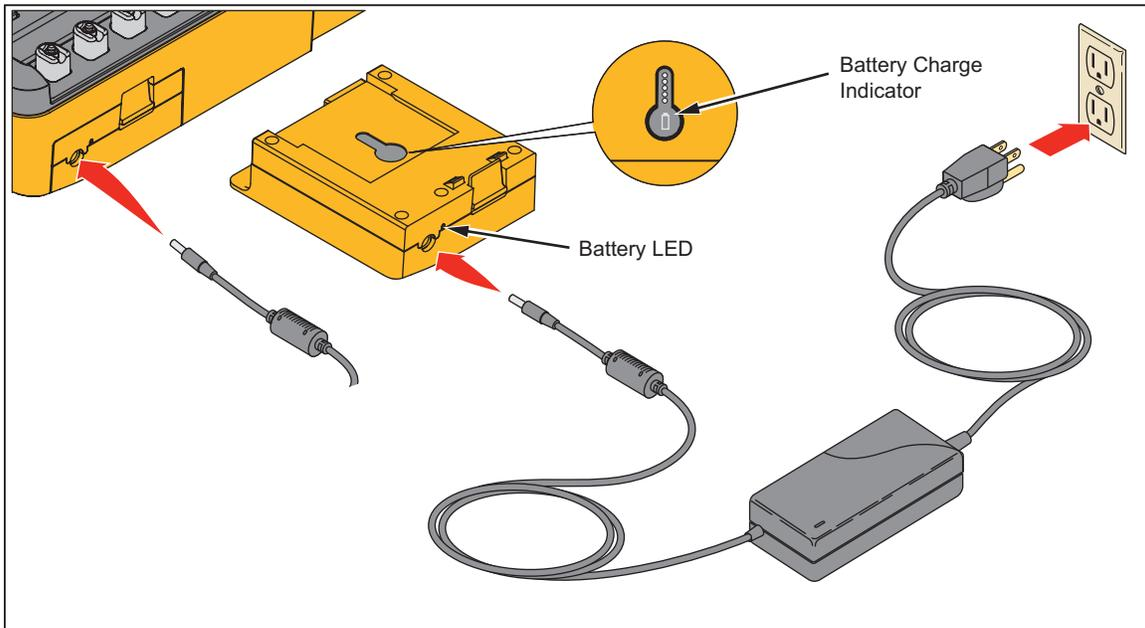

Figure 60. External Battery Charging Connections
1. Connect the ac/dc power supply to the power connector on the battery pack. See Figure 60.
When the battery pack is removed from the Product, push the button below the charge level indicators to see the battery charge level. See Figure 60.